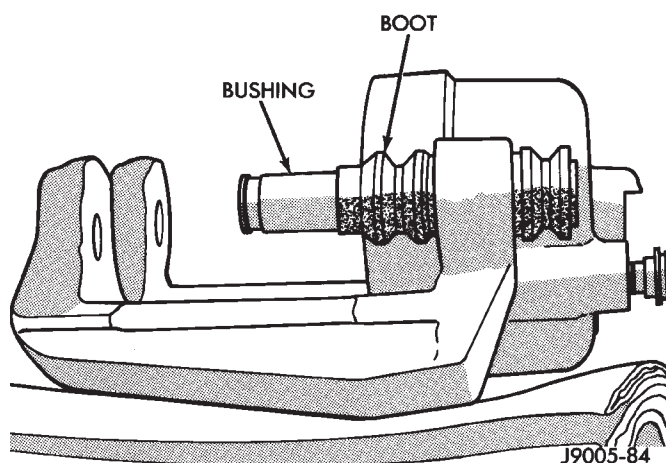

Fig. 51 Bushings And Boots Installation
- (1) Lubricate caliper piston bore, new piston seal and piston with clean brake fluid.
- (2) Lubricate caliper bushings and interior of bushing boots with silicone grease.
- (3) Install bushing boots in caliper, then insert bushing into boot and push bushing into place (Fig. 51).